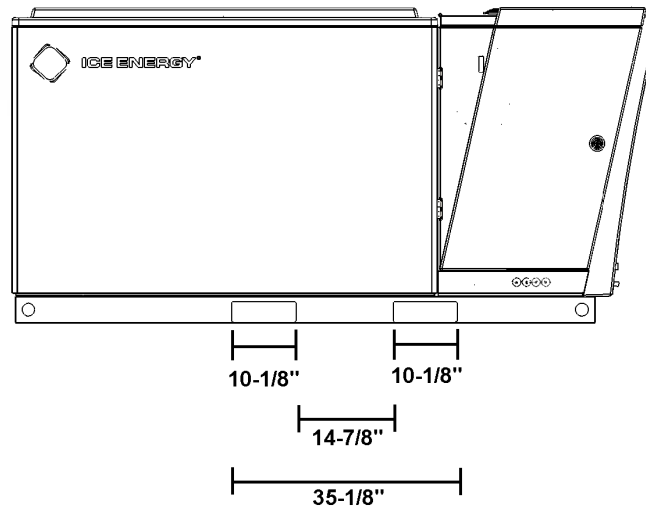

Figure 11 – Ice Bear® 30 Unit Forklift Slot Dimensions
- Forklift slots are located on the bottom of the ICE BEAR UNIT. See Figure 11 for dimensions.